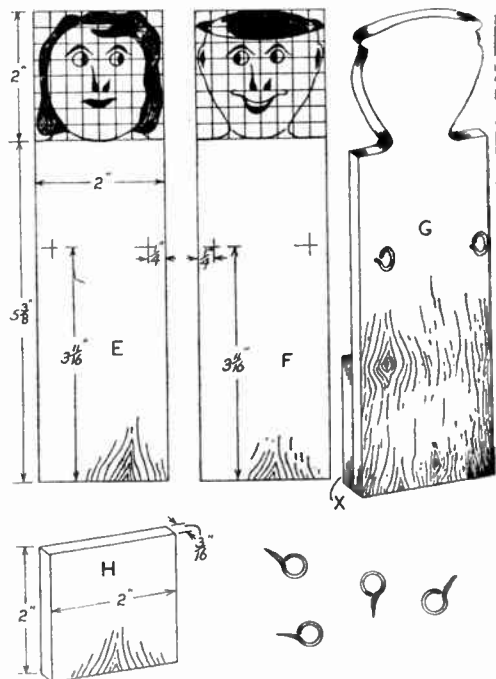

Fig. 4—The faces for the alley
Before fixing the parts so far cut, it is best to get along with the faces for the windows and details are given in Fig. 4. First cut two pieces of $\frac{3}{8}$ in. plywood to size 7 $\frac{1}{2}$ ins. long by 2 ins. wide, and divide the 2 in. square portion at the top into $\frac{1}{4}$ in. squares as indicated in (E) and (F) Fig. 4. It is now a simple matter to draw and cut the shape of the heads. The eyes, nose, and mouth, should be marked in coloured enamel on each face, which gives a very nice effect when the game is in action.
The two figures pivot on a length of $\frac{1}{4}$ in. dowel rod, so four small eye hooks as indicated are required through which the dowel will pass with ease. Screw the hooks into the back of the figures as shown in view (G) Fig. 4, the positions being clearly marked in (E) and (F).
Now cut two pieces of plywood 2ins. by 2ins. as indicated in (H) Fig. 4, and glue them on the front of the figures